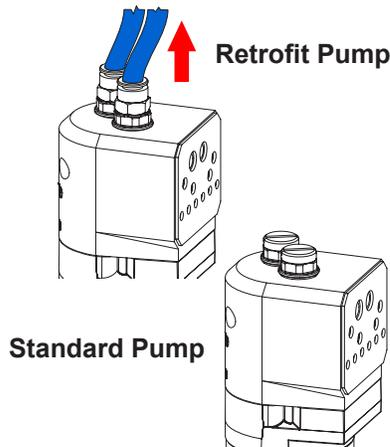

Figure 15 Removing the Purge Air Tubing
1. See Figure 15. Perform a color change to remove old powder from the pump, then relieve the system air pressure and disconnect the purge air tubing.